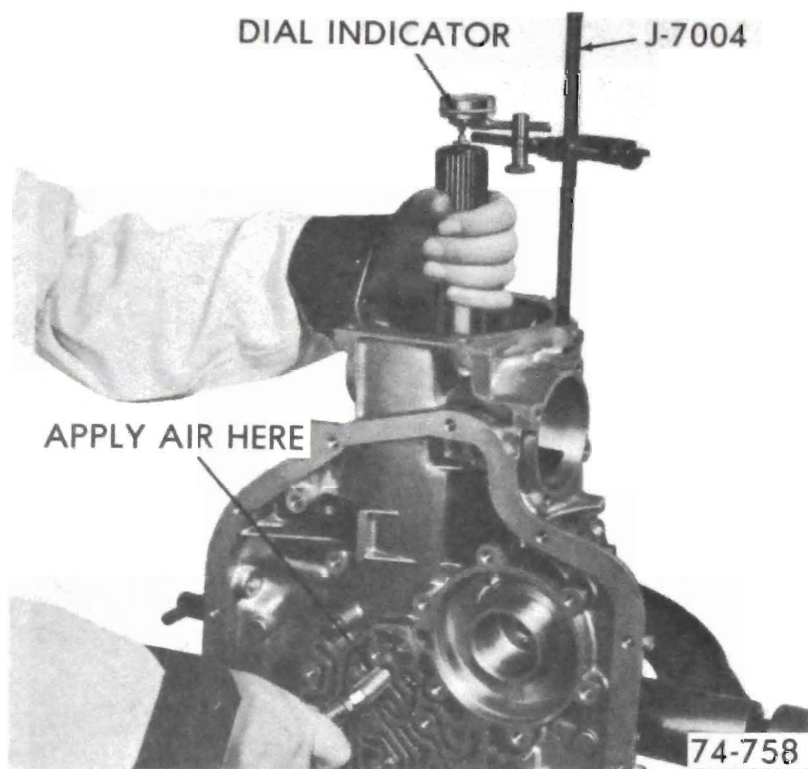

Figure 76-254
a. Install J-7004 into an extension housing attaching bolt hole. See Figure 76-254.